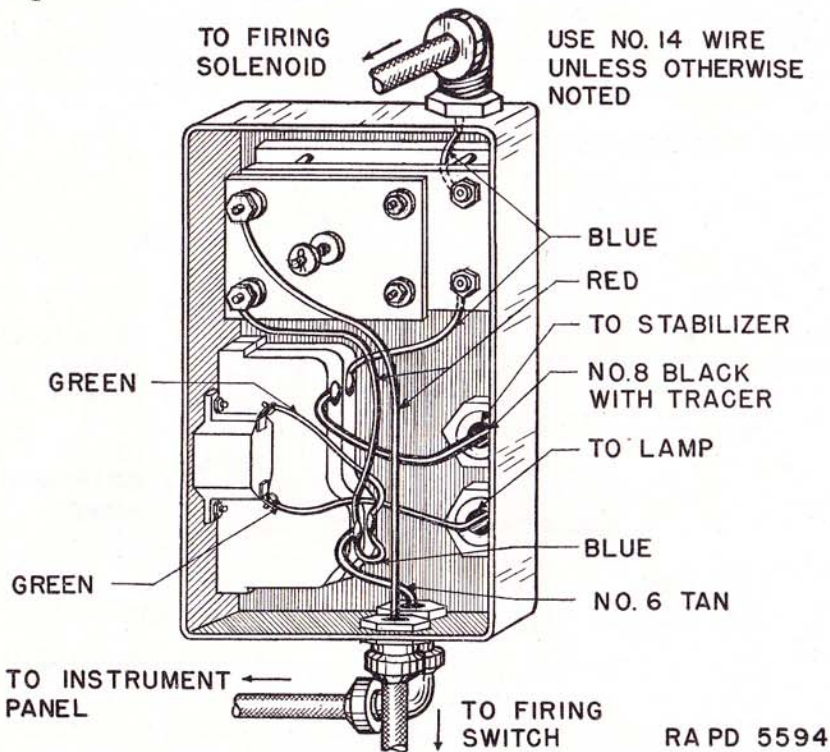

FIGURE 67.—75-mm gun switch and relay box.
**112. 75-mm gun firing mechanism (par. 35a (7)).**—The wiring diagram for the electric firing mechanism is shown in figure 67. To fire the gun, depress the firing button located at the center of the traversing handwheel (fig. 14). Depressing the button actuates a switch which sends an electric current through a solenoid. The solenoid plunger pushes against a shaft that operates the firing plunger lever. The switch box (fig. 67), which contains a relay and circuit breaker, is mounted on the left side of the gun. The fuse for the 75-mm gun circuit is in the main fuse box.
**113. Lights.**—*a. Description.*—(1) Two headlamps, two front blackout lamps, and two rear lamps are provided. The tail lamps are combination lamps. The rear left is a combination stop, service, and blackout lamp. The lower lens is the service and service stop light and takes a double beam 3-21 candlepower bulb. The upper